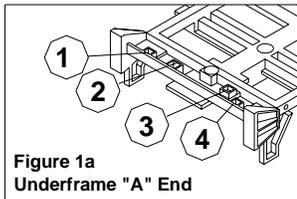

Figure 1a
The car is shipped with the interior (PN0367) installed into the body (PN0368). One end of the interior (PN0367) has four holes located near the corner. Both ends of the underframe (PN0369) have four receptacles. See **Figure 1a & 1b**. The interior (PN0367) shall have the four holes and at the "B" end. If necessary, reposition the underframe (PN0369).
**Step (2).** Locate the ladder marked "D" on the detail parts sprue. This is the tall end ladder (PN0370). Remove the part from the sprue. Place the long leg into the underframe (PN0369) location marked "1" in **Figures 1a & 1b**. Apply cement. Plug the top of the tall end ladder (PN0370) into the appropriate holes in the interior (PN0367). Repeat this step for the opposite corner.